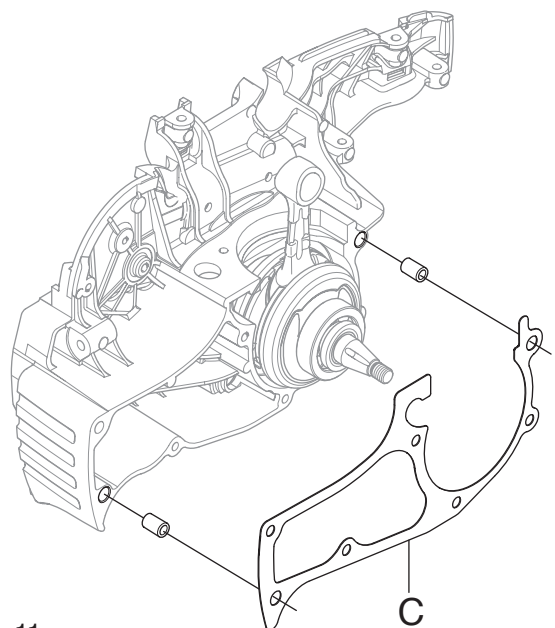

Fig. 11
4. Place the guide pegs in the clutch side's crankcase half, and grease in and insert the gasket (C). See fig. 11.